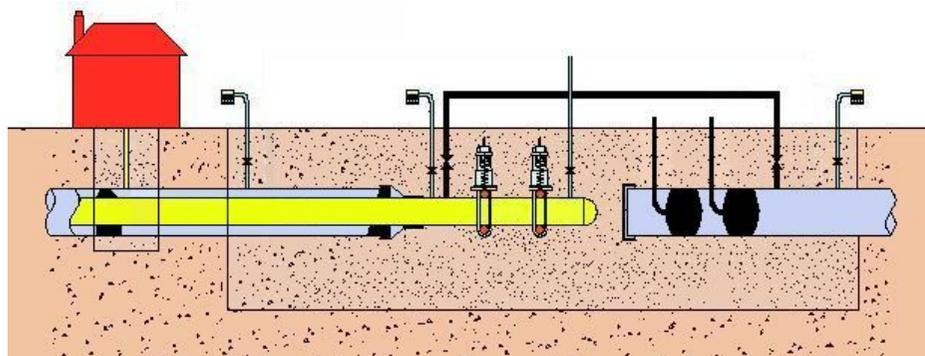

Figure 23- Launch Excavation - Commissioning PE pipe
- Following the procedures in Section E0 or for specialist equipment SGN/PM/MSL/1 Part 2, commence the connection at the launch excavation see Figure 23.